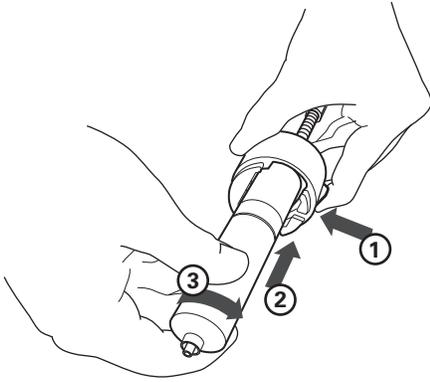

Figure 4-3 Align and push cartridge into the cap, and then rotate the cartridge to secure it.
4. Press the lever and push the cartridge into the cap. Align the cartridge so that it fits fully into the recess in the cap (Figure 4-3).